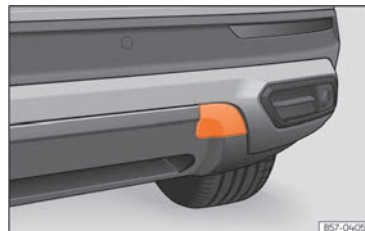

Fig. 195 Rear bumper on right: remove the lid.
The housing of the screw towing eye is on the right side of the rear bumper behind a lid >>> Fig. 195.
- Press the upper side of the lid »» Fig. 195 to unclip it.